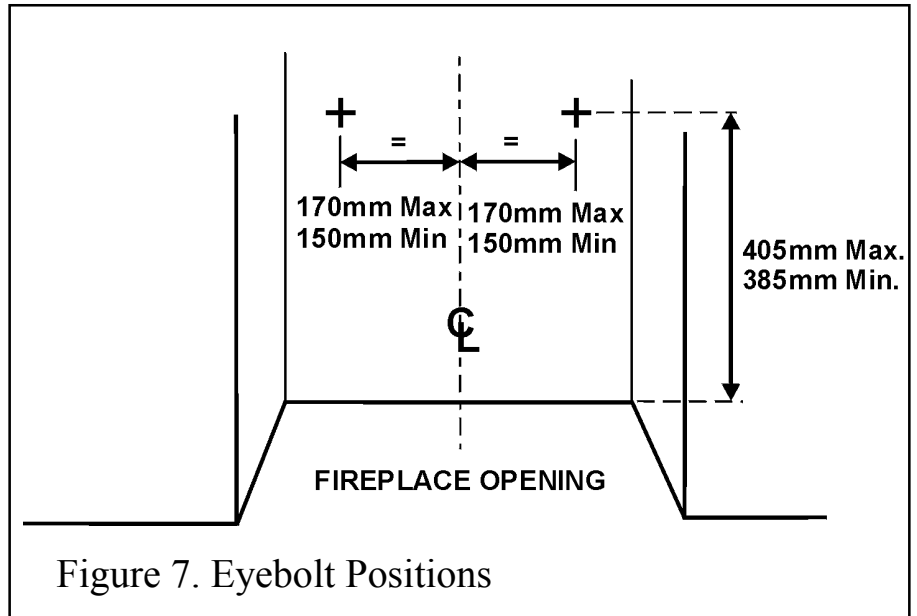

Figure 7. Eyebolt Positions
2. Drill two holes in the rear wall of the fireplace for the eyebolt plugs. The holes should be drilled within the range of positions shown in figure 7 using a no.12 masonry drill. The holes should be equidistant each side of the centre line of the fireplace to ensure that the appliance finishes centrally in the opening when tension is applied to the cables.